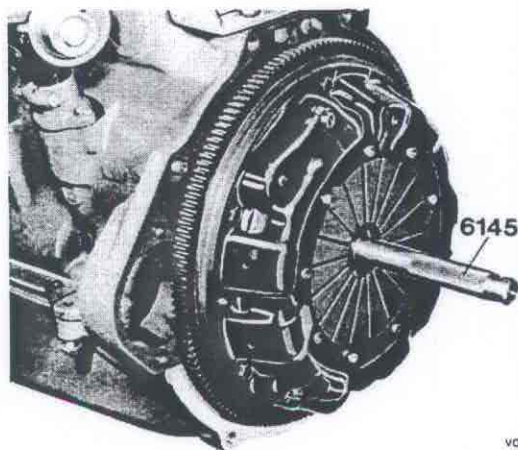

Fig. 41-8. Centring the clutch
1. Place the linings (the highest side of the hub facing towards the rear) together with the clutch against the flywheel and fit centering drift 6145 so that the guide pin on the drift reaches into the pilot bearing in the flywheel, see Fig. 41-8.